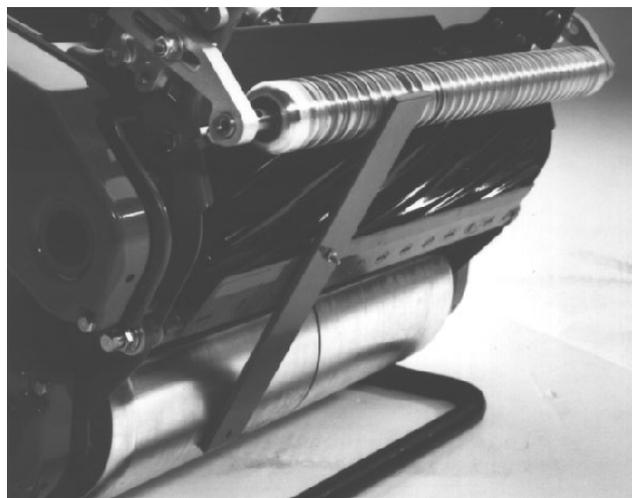

Figure 19
5. Hook adjusting screw head on the cutting edge of the bedknife. Rest the rear end of the bar on the drum (Fig. 19).